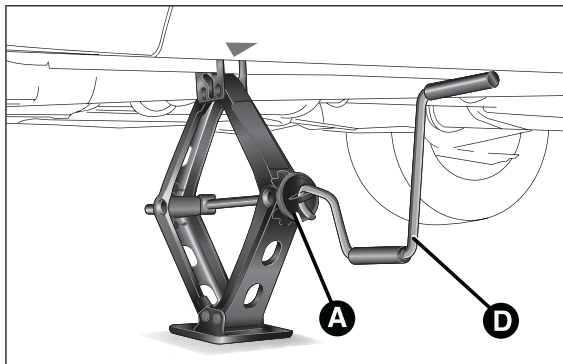
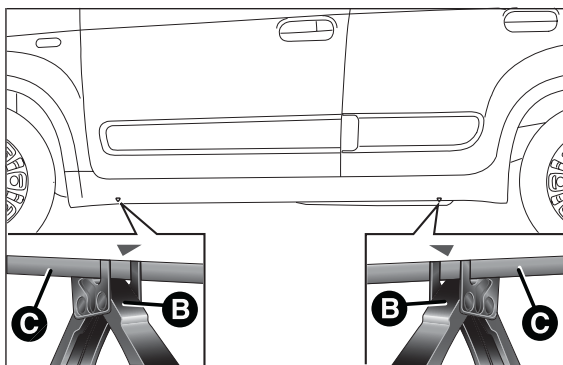

fig. 104
fig. 105
- ☐ operate the device A fig. 104 to extend the jack until the top of the jack B fig. 105 fits correctly into the side member C (next to the mark ▽ on the side member);
- ☐ fit handle D fig. 104 into the housing in device A, operate the jack and raise the car until the wheel is a few centimetres from the ground;